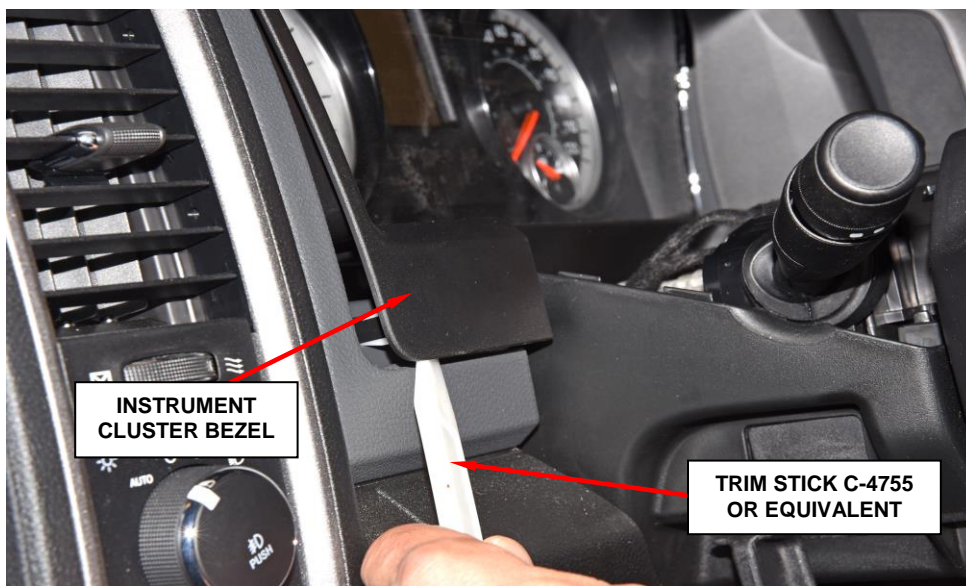

Figure 3 – Instrument Cluster Bezel
5. Using a trim stick C-4755 or equivalent, disengage the retainer clips that secure the instrument cluster bezel to the instrument panel and remove the bezel (Figure 3).